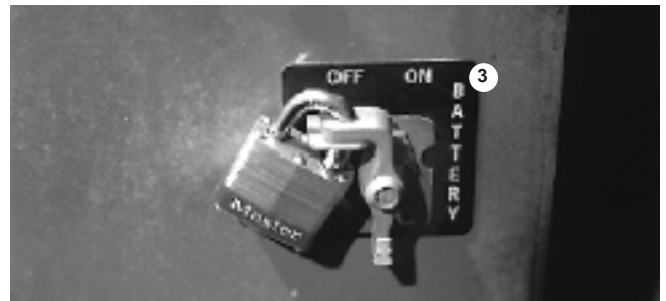

Figure 10.3
2. Turn the battery switch (3) off and padlock it (see figure 10.3).